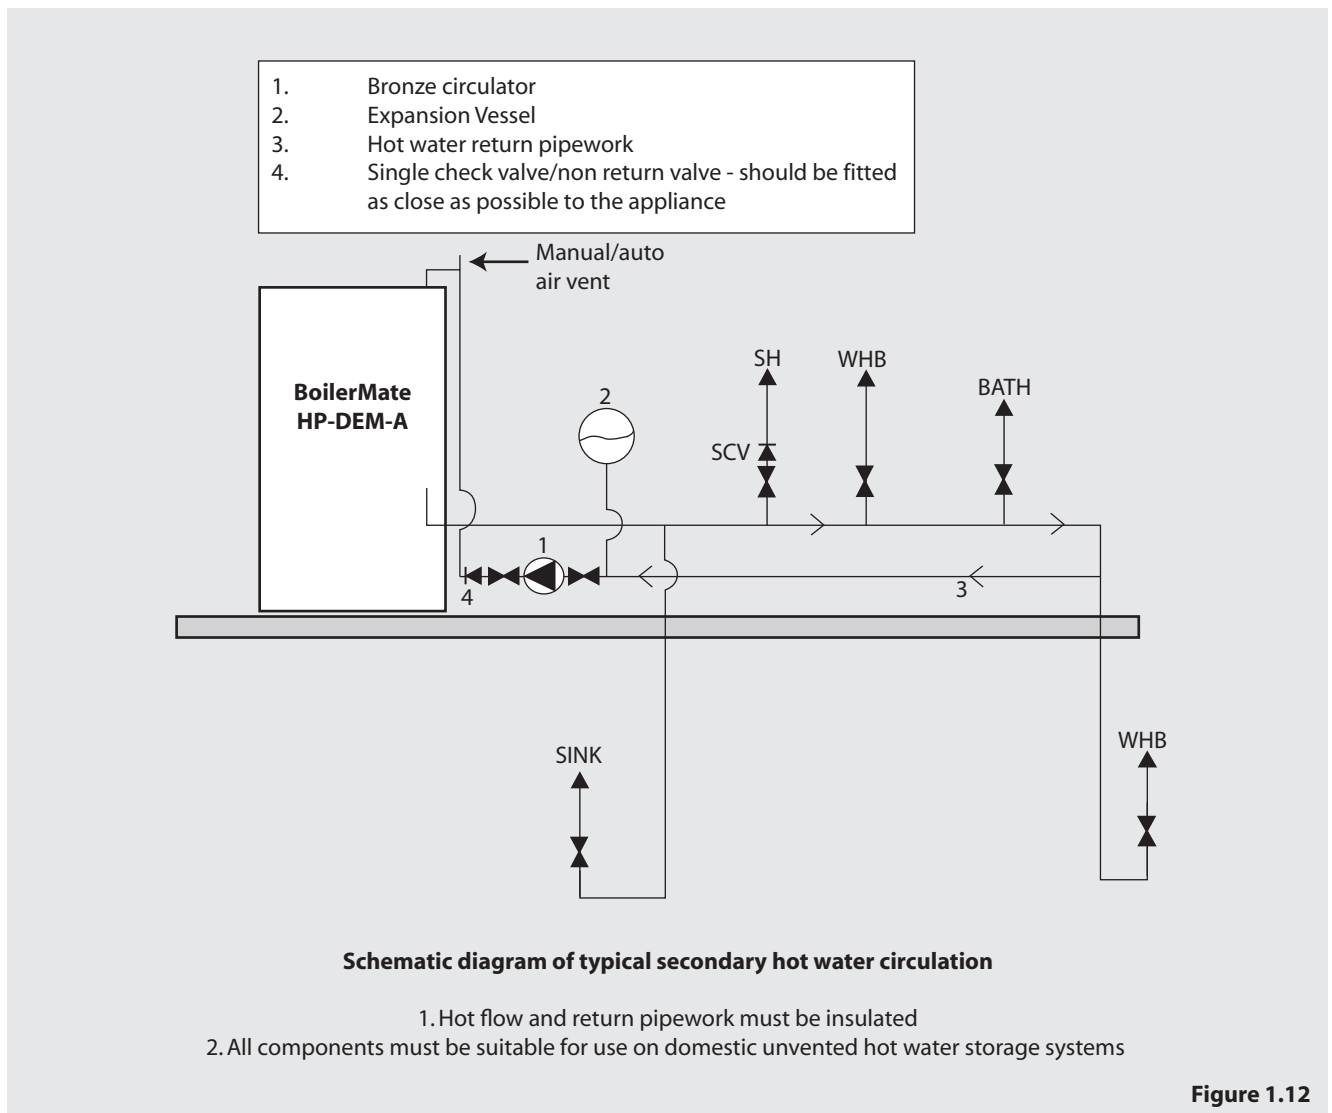

Figure 1.12
- b. A secondary hot water circulation system as shown schematically in figure 1.12.